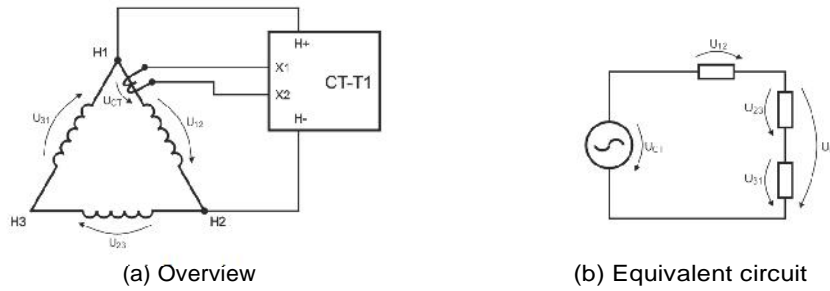

Figure 3.2: CT under test built into power transformer (TR factor 2/3)
If the CT under test is built into a winding power transformer and the according winding cannot be short circuited, a compensation factor needs to be applied. Figures 3.2 and 3.3 show the measurement setup and the equivalent circuit of the high current side.
- A turns ratio correction factor of  $2/3$  needs to be applied if the *H1- H2* cables of the CT-T1 are connected to the CT under test and the associated coil (Figure 3.2).